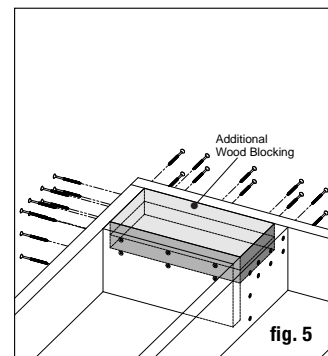

fig. 5
Step 10 Install the bottom railing between the posts by sliding the brackets together. Attach the side of the bracket with the barrel bolt to secure in place (fig 5).
Step 2 Installing Posts: Install posts by attaching the aluminum base to the surface of the deck. Position the post so the fastener will go into the floor joist, and make sure the decking is firmly attached to the joist at the location of the posts. Proper structural blocking/ framing under the decking material is required when attaching the post to a wood frame deck because decking alone is not approved as structural framing (fig. 5).